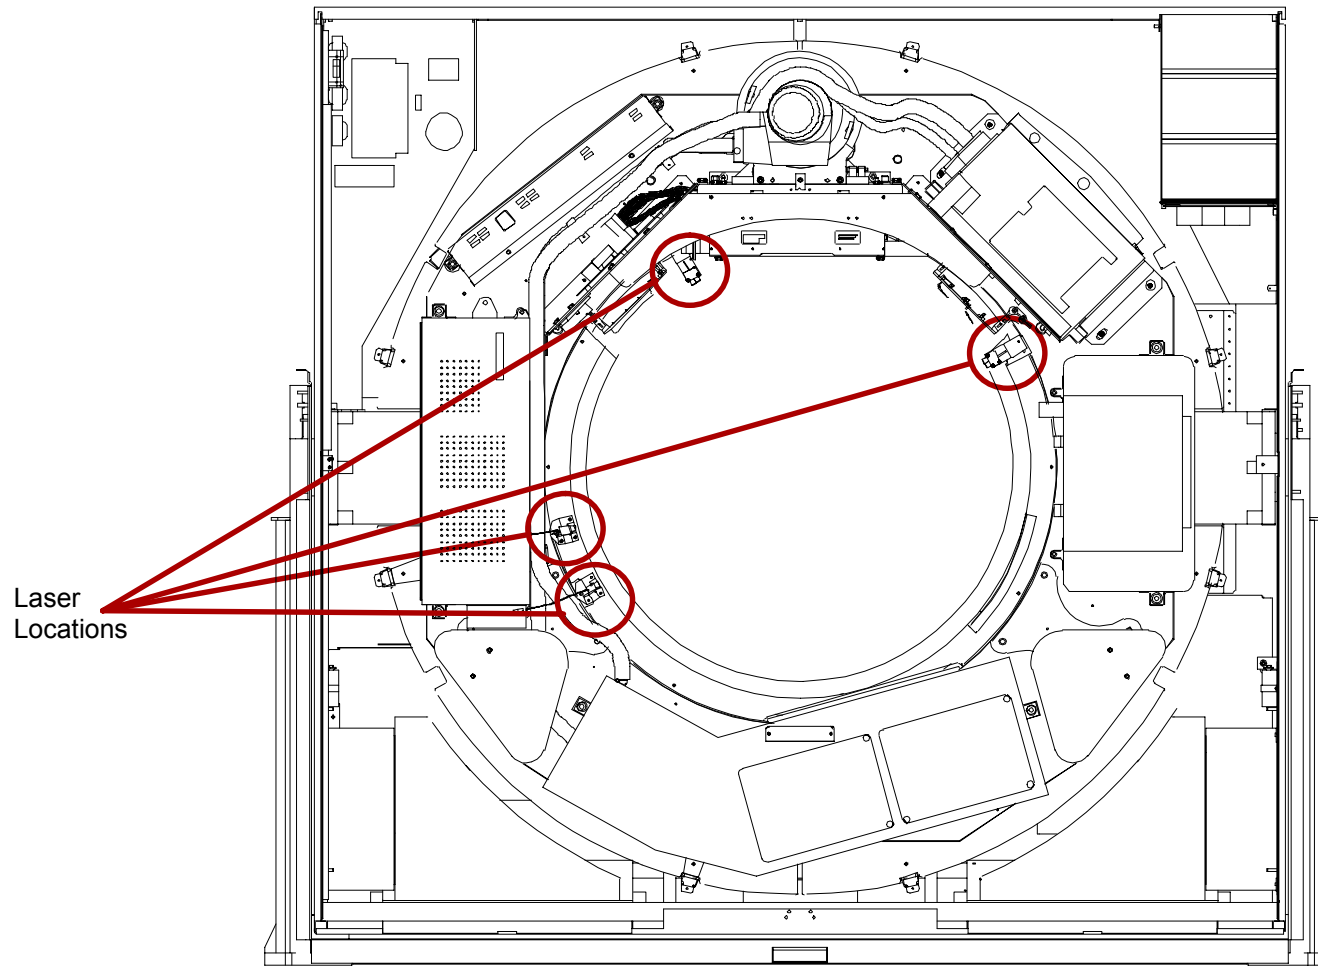

FIGURE 302 Scan Frame Pinned at 12:00 / Laser Locations
3. Move the Scan Frame by hand until the X-Ray Tube is at the 12:00 position. Lock the Scan Frame with the Locking Pin. See Figure 302.